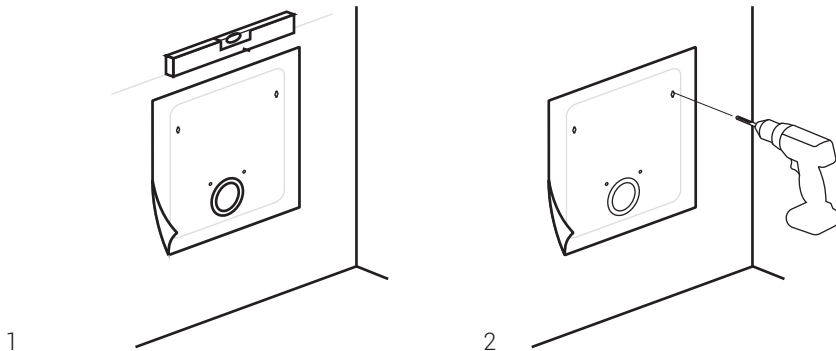

Figure 6.3 – Preparation of the place for mounting the device
- Align the hole of the mounting template with the hole of the air duct (use the building level to ensure a horizontal position (Fig. 6.3, p. 1)). Mark places for four holes for dowels according to a chosen type of placement (Fig. 6.3, p. 2). Drill holes being guided by the marking.